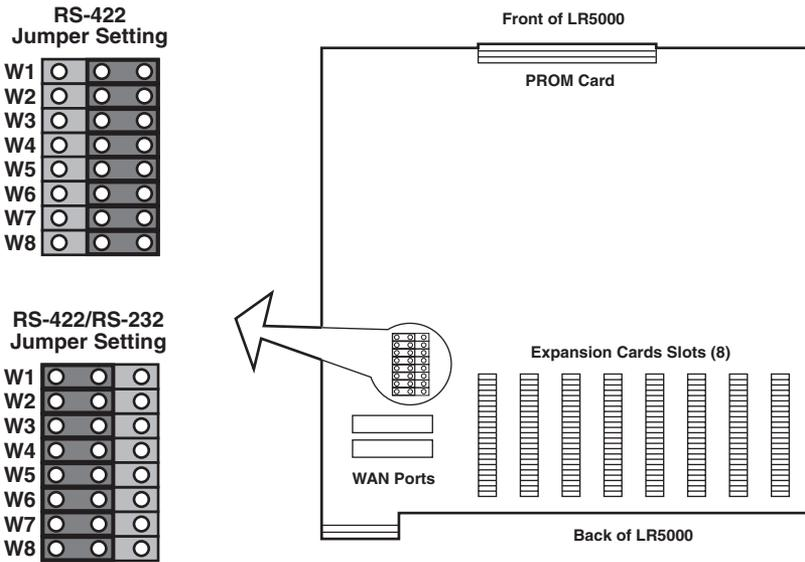

Figure 3-9. Jumper Settings on the Motherboard.
2. Locate the jumpers on the motherboard. See Figure 3-9.